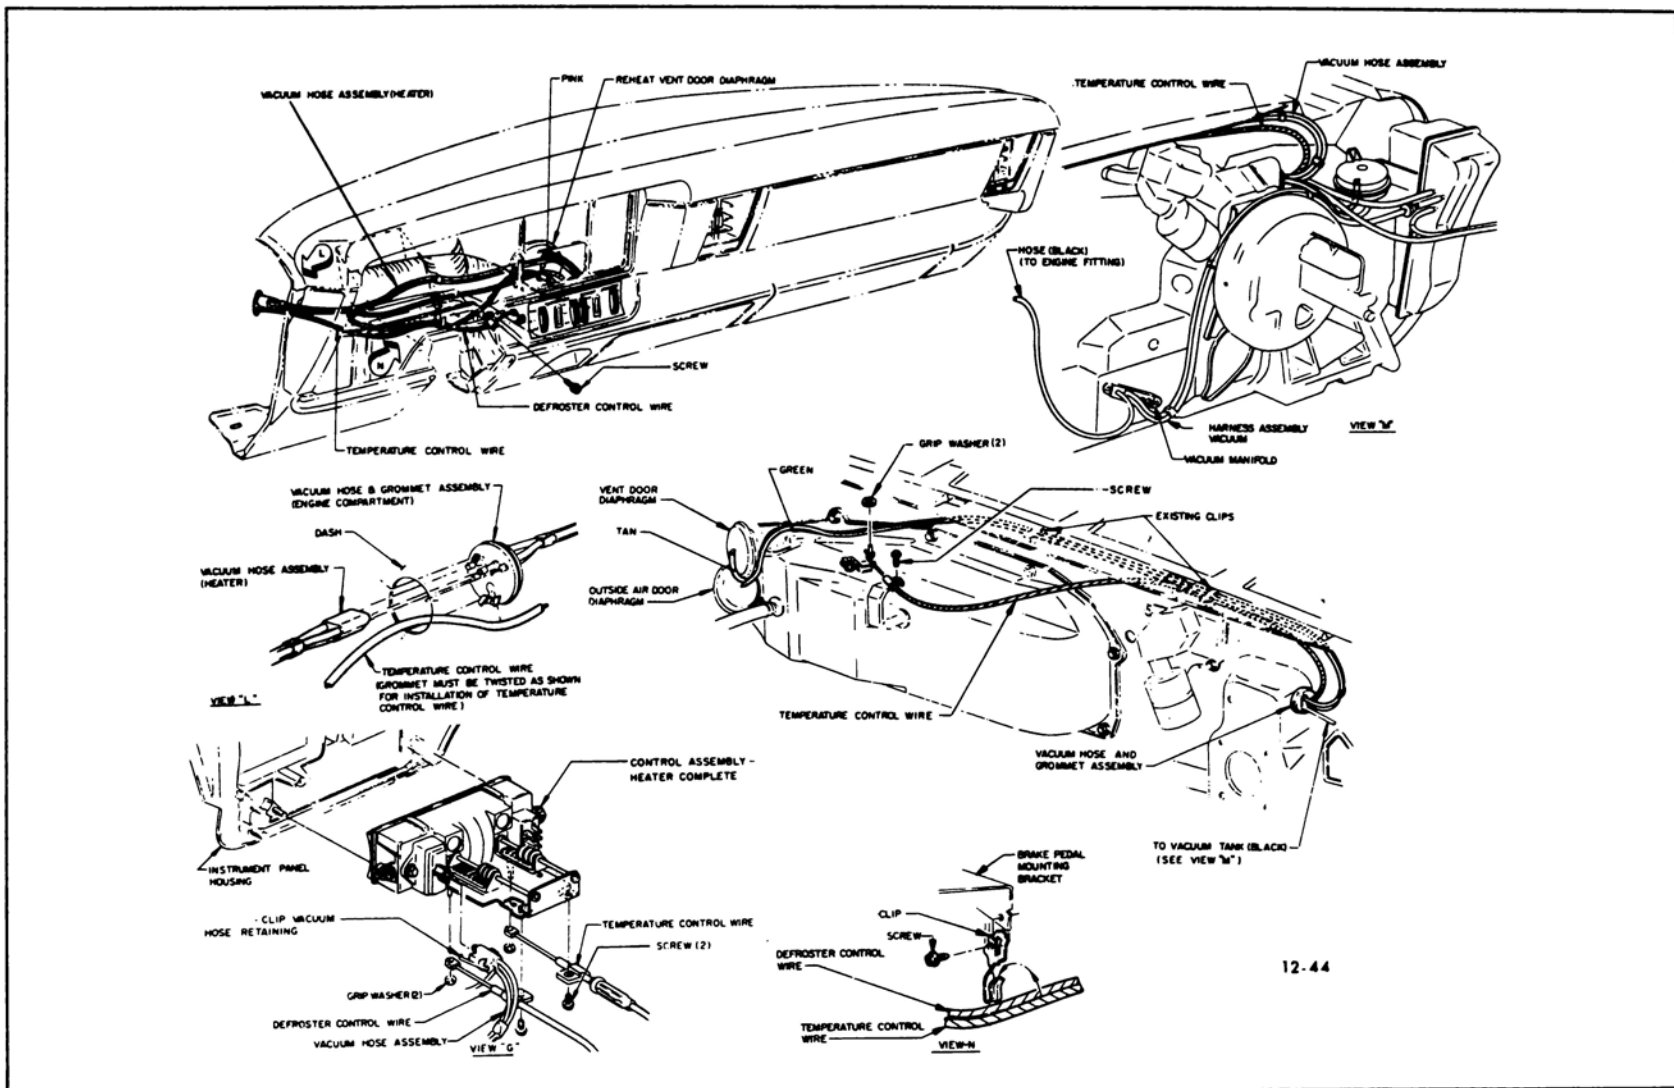
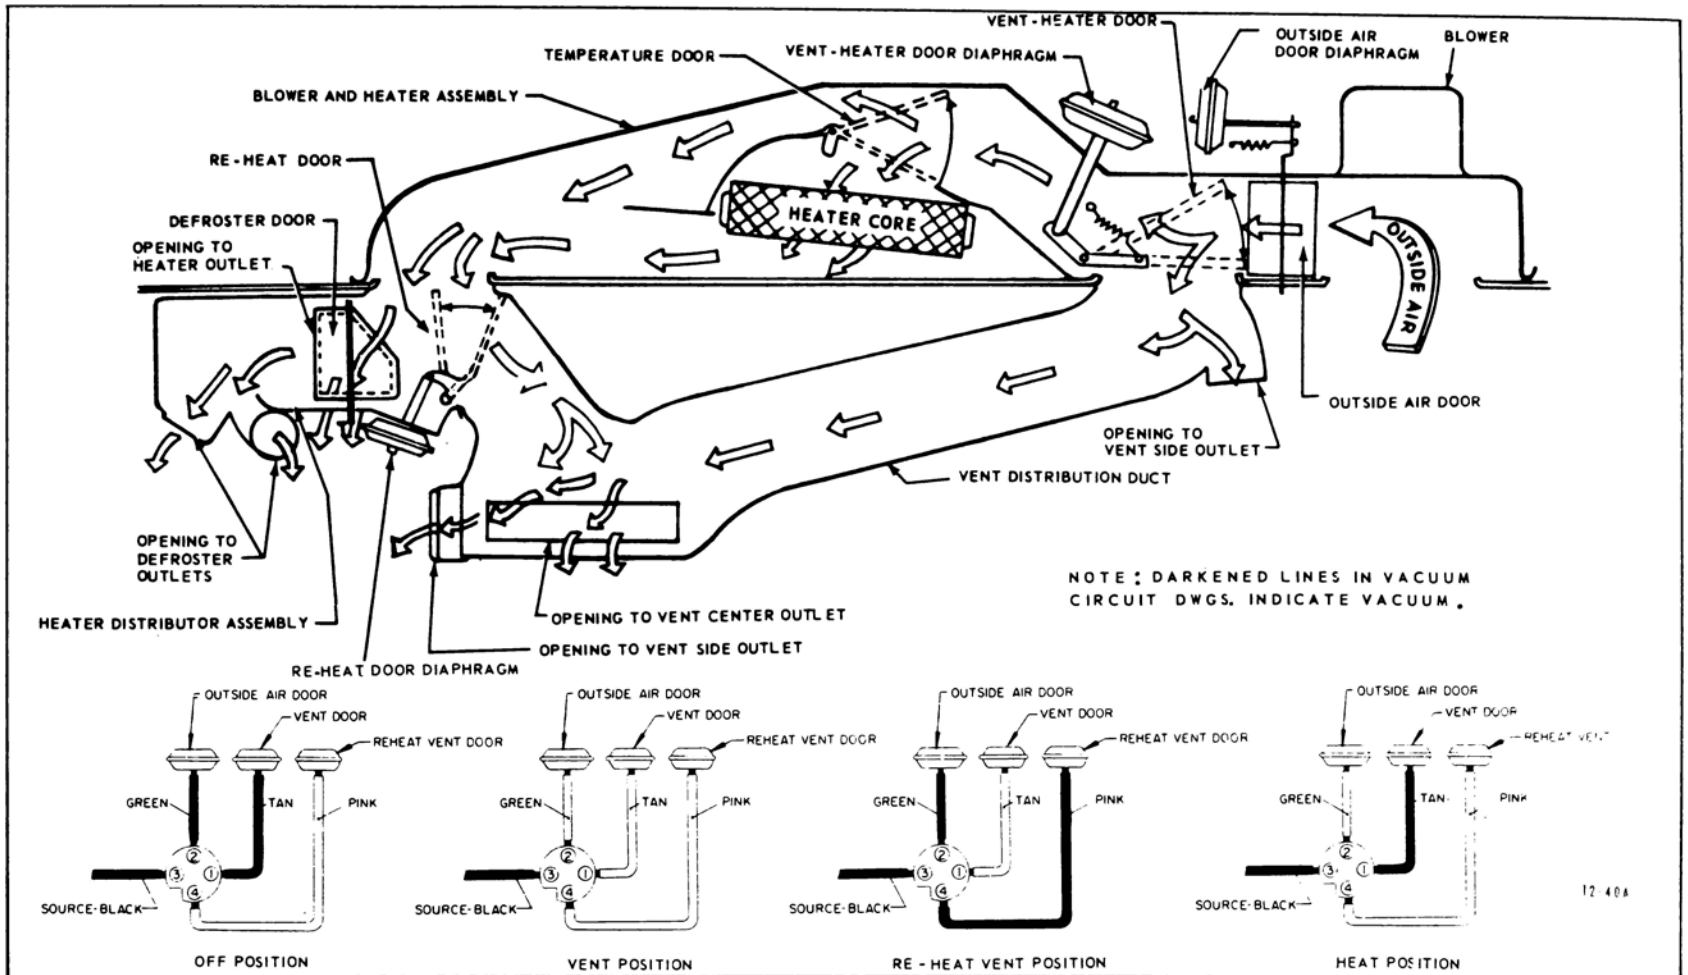

Figure 12-23 Vacuum Hose and Control Cable Installation
Figure 12-25 Heater System Air Flow
outside air door, heater-vent door, heater core and vacuum diaphragms; (2) the heater selector assembly which contains the defroster door and re-heat vent door and diaphragm (see Figure 12-22); (3) the vent distributor duct; and (4) the instrument panel control assembly (see Figure 12-23).
The flow of air in the heater system is shown in Figure 12-25. Air enters the plenum chamber thru an opening forward of the windshield.
2. TEMPERATURE Wheel - This wheel regulates the position of the temperature door (see Figure 12-25) thru action of a control cable (see Figure 12-23). As the wheel is moved up from "COOL" or "MED", the temperature door is progressively opened to direct more air through the heater core.
position vacuum is applied to the vent-heater door diaphragm and outside air door diaphragm to hold these doors closed. See Figure 12-25.
4. Disconnect temperature door control cable. See Figure 12-23.
5. Disconnect vacuum hoses attached to outside door and vent-heater door vacuum diaphragms. See Figure 12-23.
Insufficient Heating	<p>Kinked vacuum hoses or defective vent-heater and outside air door vacuum disc switch - Check that there is no vacuum applied to diaphragm of outside air door, and that vacuum is applied to diaphragm of vent-heater door (see Figure 12-25) when SELECTOR wheel is in 'HTR' position.</p> <p>Sticking outside air door - Disconnect door lever spring and move door lever to check for smooth operation.</p> <p>Temperature door does not open sufficiently - Check operation and adjustment of door and TEMPERATURE wheel (refer to paragraph 12-22).</p> <p>Check for dirt particles in engine thermostat.</p> <p>Insufficient coolant or plugged heater core - Feel and compare temperature of heater core inlet and outlet pipes. Both hoses should be hot and approximately same temperature.</p> <p>Check for dislodged diaphragm in flow control valve.</p>
Insufficient Air thru Instrument Panel Outlets	<p>Kinked vacuum hoses or defective vent-heater and outside air vacuum disc switch - Check that no vacuum is applied to either outside air or vent-heater diaphragms when SELECTOR wheel is in 'VENT' position (see Figure 12-25).</p> <p>Sticking outside air and/or vent-heater doors - Disconnect door lever springs and move door lever to check for smooth operation.</p> <p>Defective vent-heater diaphragm - Substitute new diaphragm.</p>